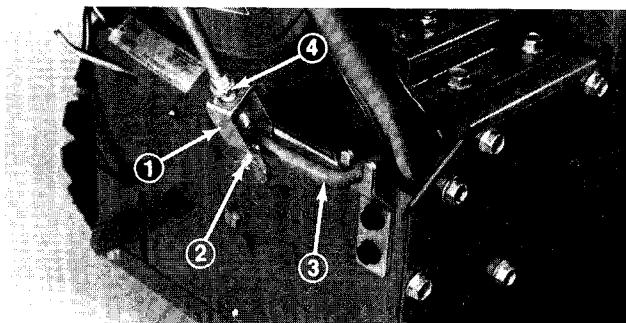

Figure 4
2. Rotate clevis at end of auger drive control rod until holes in clevis line up with hole in bent rod (Fig. 4). Next, secure clevis and bent rod together with clevis pin and cotter pin (Fig. 4).
3. Tighten the jam nut firmly against top of clevis (Fig. 4).